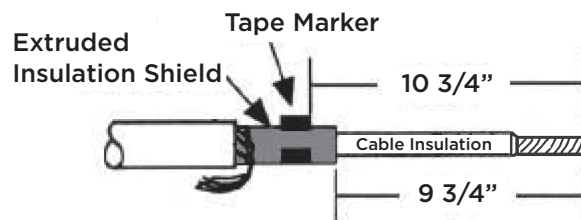

Fig. 5 - Shield Cutback
- D. Apply two layers of vinyl tape onto the insulation shield 10-3/4" back from the end of the cable. This will serve as a temporary marker for locating the cable adapter. (See Figure 5.)